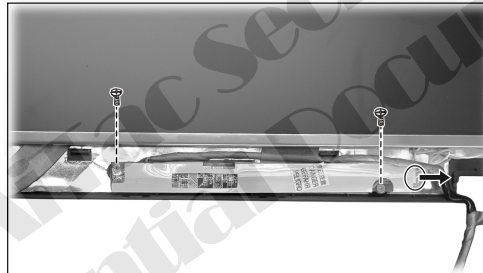

Figure 2-22 Free the inverter board
3. Remove the two screws fastening the inverter board and disconnect the cable, then free the inverter board. (Figure 2-22)